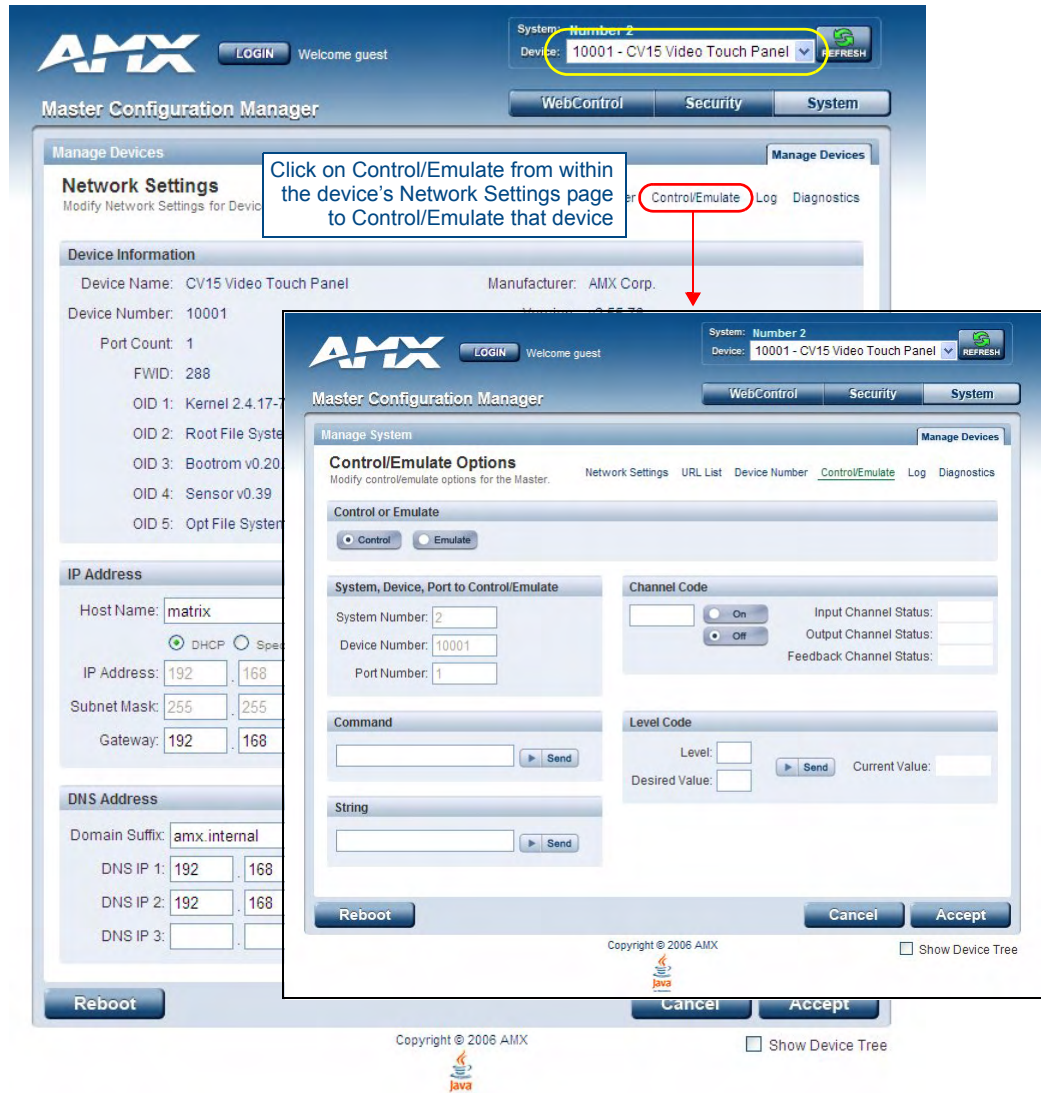

FIG. 30 Select Control/Emulate from within a selected Device's Network Settings page
- c. Click on the *Control/Emulate* link. This opens a Control/Emulate Options page for the selected device (FIG. 30).